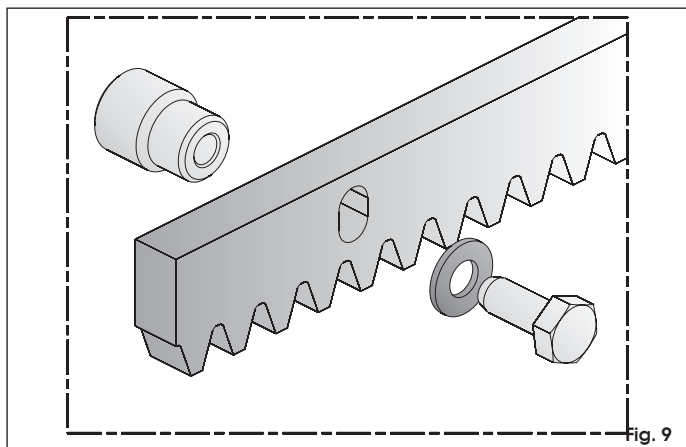

Fig. 9
1. Prepare the rack (supplied on request), with the supplied Hex-head 8 x 25 screws, and spacers to be welded, as shown in Fig. 9. To avoid having to weld on the gate, galvanised through-spacers and Hex-head 8 x 50 securing screws are available.